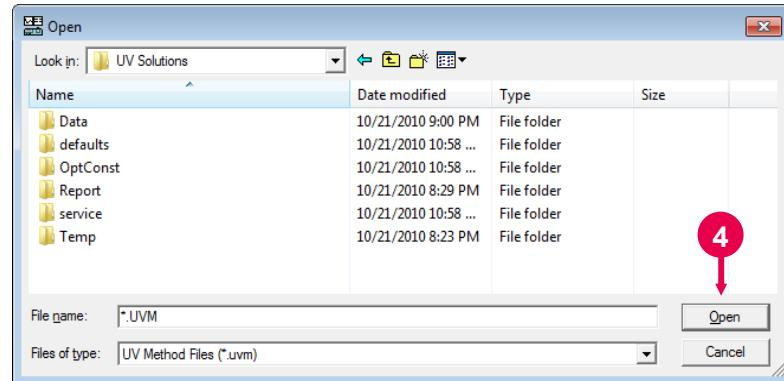

Fig. 1-70
- (3) Click the model name of the instrument being used.
- A dialog box as shown in Fig. 1-70 will appear.